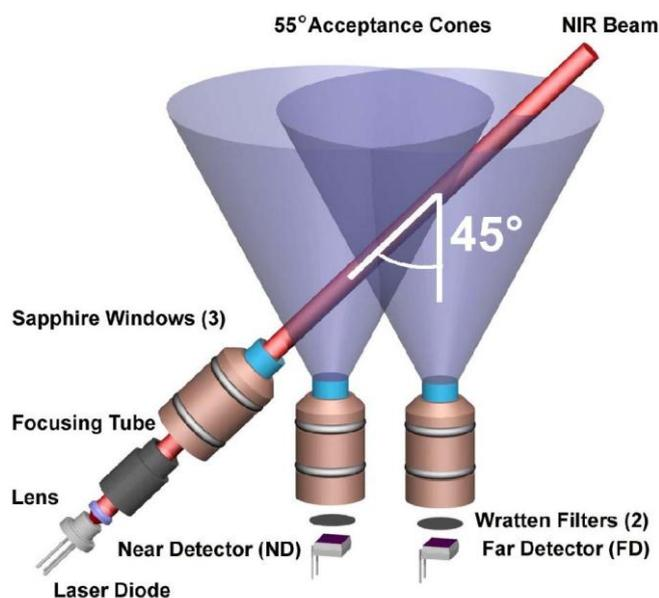

Figure 4-2. Schematic of optical system
The heart of the OBS-5+ is an optical system comprised of a near infrared (NIR) laser diode and a photo detector positioned 10 mm from the laser, called the near detector (ND), and one mounted 25 mm from the laser, called the far detector (FD), see Figure 4-2. The detector acceptance-cone angle is 55°, which means that photons must enter the detector sapphire windows at angles less than 27.5° to be detected. The laser light is collimated to a 3 mm by 1 mm elliptical beam with convergence  $< 2.5$  mrad. The angle between the NIR beam and detector acceptance-cone axes is 45°. The OBS-5+ can detect light scattered by particles illuminated by the NIR beam at angles between 105° to 165°. With its automatic-power-control circuit, the laser diode provides stable optical power over time and the 0 to 30°C operating temperature range.
In Figure 4-2, suspended particles scatter light from the NIR beam onto the near and far detectors, and suspended solids concentration (SSC) is estimated with signals counts from these detectors by a microcontroller, using a set of logic rules and lookup tables derived from calibration data. Counts are the digital equivalents of the ND and FD signals and are proportional to backscatter intensity. Sample calibration curves relating ND and FD counts to sediment concentration in  $\text{g L}^{-1}$  are shown on Figure 4-3. As particle concentration increases from 0, the ND and FD signals rise to maxima at peak concentrations, shown by the red (open) and blue (solid) arrowheads above the x axis. Beyond the peak sediment concentrations, light attenuation is the dominant factor controlling the light level at the detectors, and so the ND and FD counts decline. The scattered NIR must travel farther to be detected by the FD than by the ND, and therefore the peak of the FD curve occurs at a lower sediment concentration than the peak of the ND curve. The instrument exploits these peak offsets to estimate sediment concentration. Using either the ND or FD counts, whichever is indicated by the logic rules, the microcontroller does a spline interpolation between calibration values to derive an SSC value. It then combines this value with time and pressure data, and sends the results to a PC.